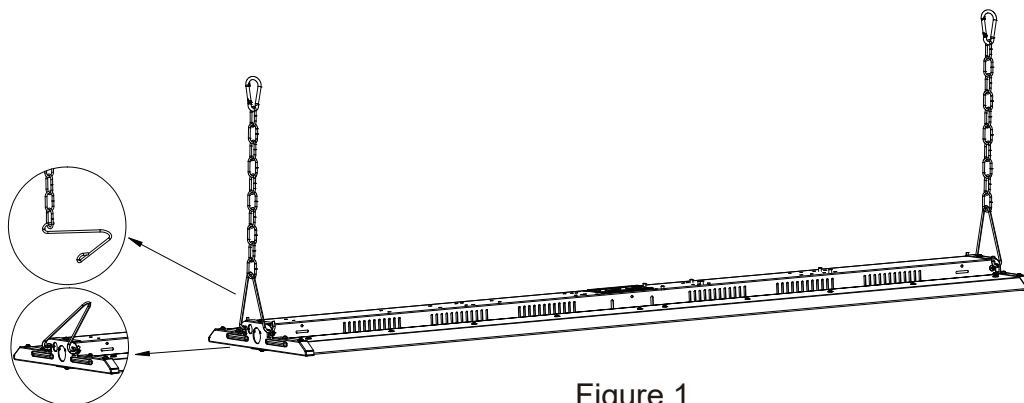

Figure 1
- Step1. Hook up the chain(Figure 1);
- Step2. Connect the chain with fixture(Figure 1);
- Step3. Fix the chain on the rail, adjust the chain length as per need(Figure 1);